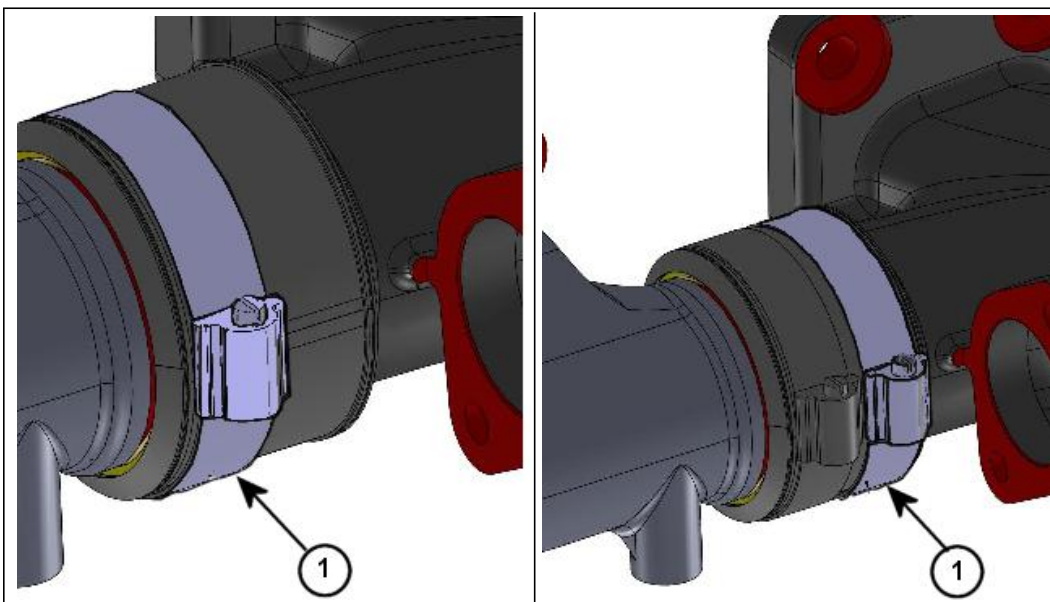

Figure 5 - Install Worm Drive Clamp at Rope Packing | Figure 6 - Install Second Worm Drive Clamp
**Step 4 : Install Worm Drive Clamps** (Figure 5 & 6)